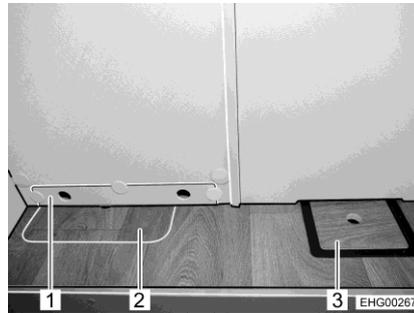

Fig. 142 Access to waste water tank at rear
- Remove the panel (Fig. 142,1).
- Open the floor trap for the waste water tank (Fig. 142,2)
- Open the floor trap for the drain cock (Fig. 142,3).
- Close the floor trap for the drain cock (Fig. 142,3).
- Close the floor trap for the waste water tank (Fig. 142,2).
- Replace the cover (Fig. 142,1).